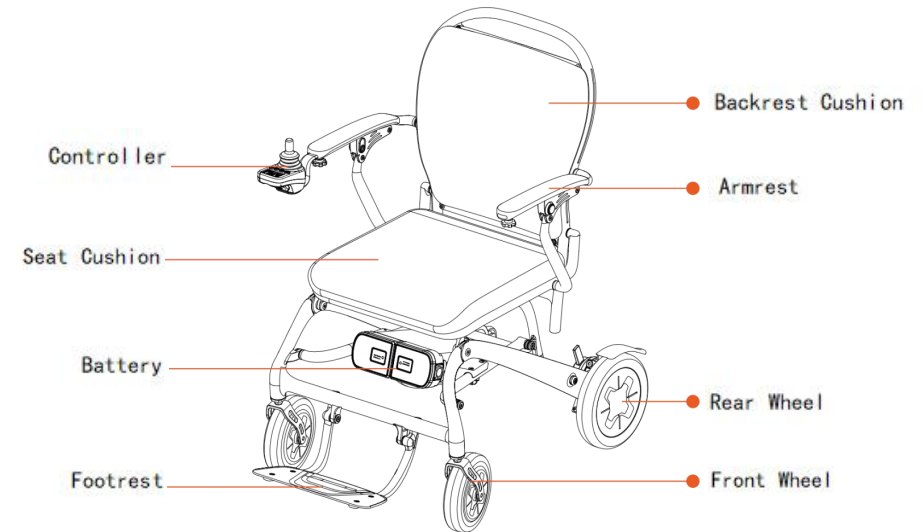

Figure 1
3.1 The electric wheelchair consists of the frame, motor, controller, lithium battery, seat, wheels, armrests, and footrests. It can be operated by the user or caregiver, with one or more motors driving the chair and a seat support. The structural diagram is shown below. (See Figure 1)